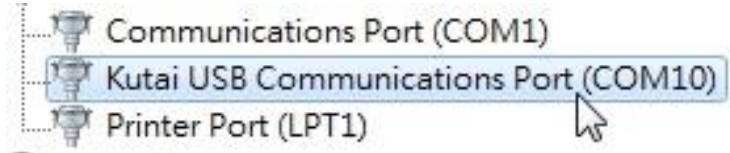

Figure 2-7
8. Click opens the Device Manager to check if the Driver is properly installed, as shown in Figure 2-7.